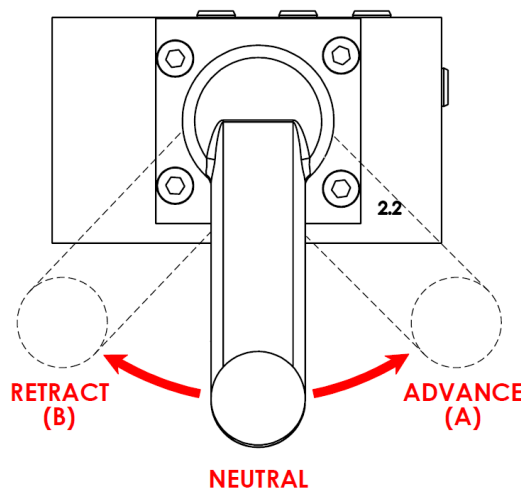

Figure 6.2: 4-Way Directional Control Valve
For 4-way valves, turn the lever fully anti-clockwise – "advance (A)" (See figure 6.2).
1. Set the adjustable pressure relief valve (8) if required. See section 6.1 for details.
2. Connect 'advance' hose to service port 'A' (top) and the 'retract hose' to service port 'B' (bottom). With all hydraulic connections and an electrical connection made, turn the pump on by pressing the green 'ON' button (12).
3. Operate the directional control valve (6) to control the cylinder/s or tool/s in use. Turn the lever fully clockwise for "retract" and fully anti-clockwise for "advance" functions. (See figure 6.2)